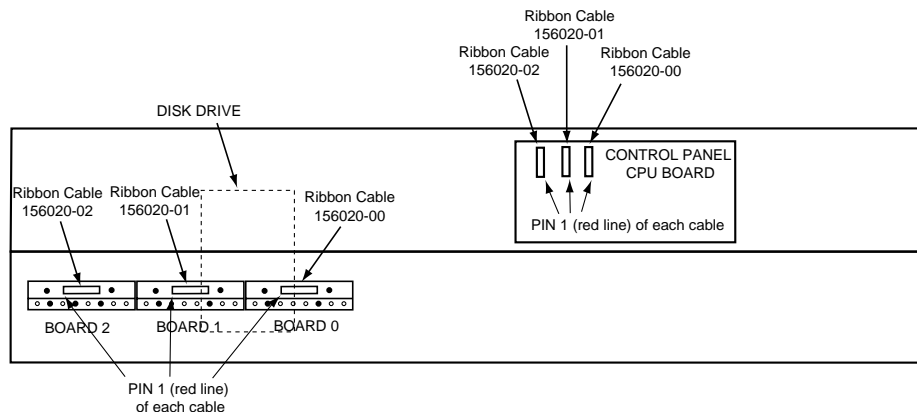

Figure 2-13. Model 4000-3 Readout Display Installation
3. There are eight holes in the Readout Display bracket metal. Line up the second and sixth holes from the left in each bracket assembly with the two holes above the display window so the display shows properly through the window. Refer to Figure 2-13. Attach each bracket assembly to the accessory panel with two of the six loose screws provided.
4. Three different length ribbon cables are provided for connecting the readout display circuit boards to the Control Panel CPU Board (Assembly Number 068985) mounted on the inside of the upper accessory panel. Install the following cables from the Readout Display circuit boards to the indicated connectors on the CPU board as shown in Figure 2-13 and described below. (Note pin1 on each ribbon cable is indicated with a red line.)